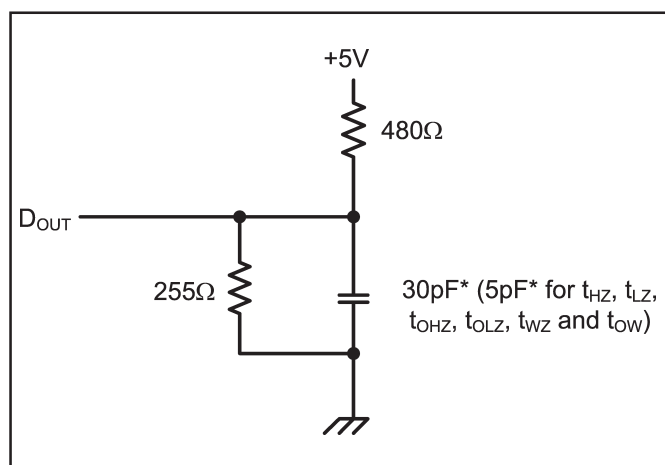

Figure 1. Output Load
9. Transition is measured ±200mV from steady state voltage prior to change, with loading as specified in Figure 1.
Output Load	See Figures 1 and 2